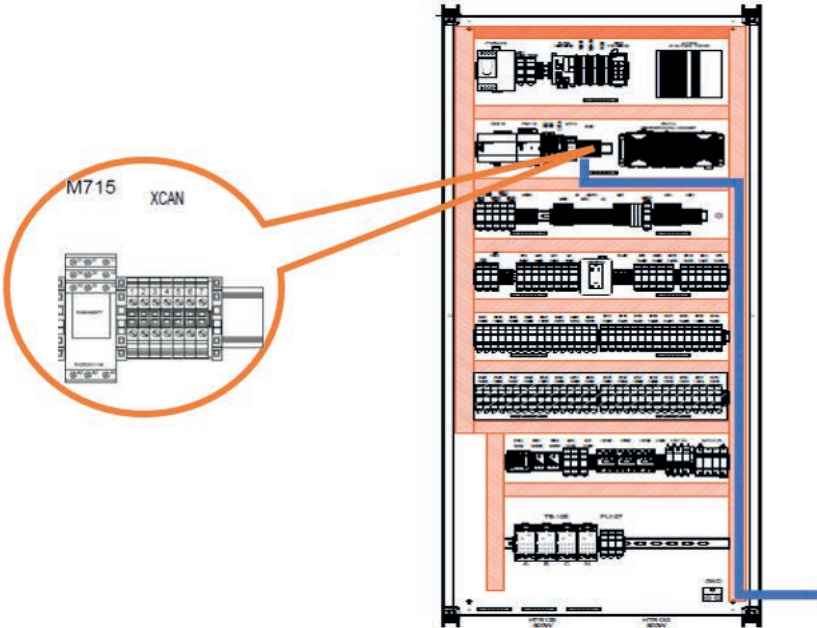

Figure 138. M-Cab XXL Location of C-Cab XXL Auxiliary Power Connection
- d. As aid for the location reference use Figure 135 and Figure 138 as a guide.
- a. Route the cable harness as per Figure 138 to Terminal Block “XCAN”.